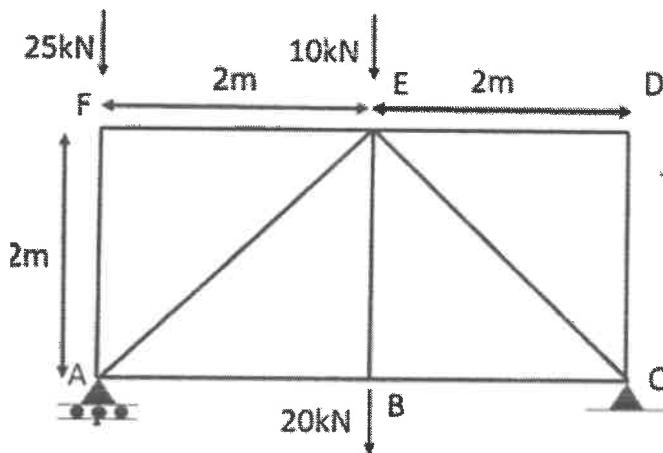

Fig.4
- 6 A pin-jointed truss is given in Figure 4. Determine the vertical displacement of joint E using the unit load method. Each member is with axial rigidity $AE = 1.25 \times 10^5$ kN.